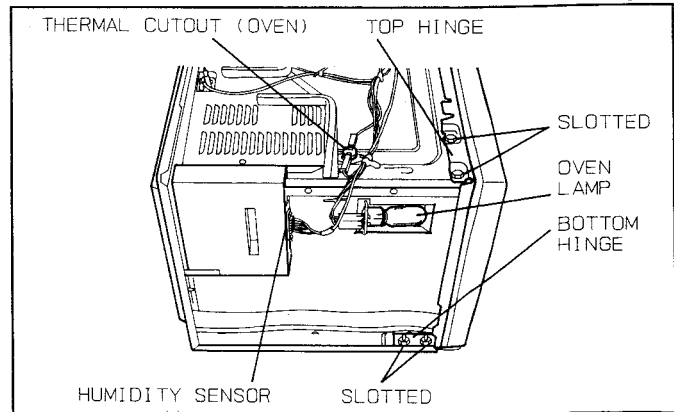

Fig. 24
(H) When mounting the door to the oven, be sure to adjust the door parallel to the bottom line of the oven face plate by moving the upper hinge and lower hinge in the direction necessary for proper alignment. (Fig. 24)